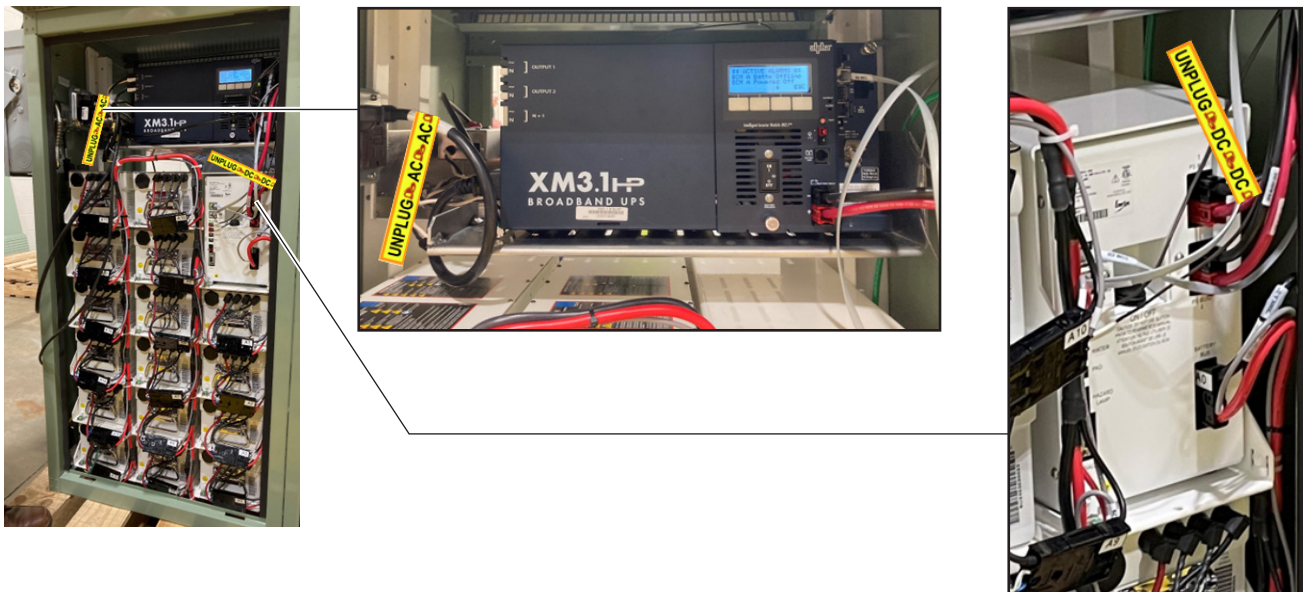

Fig. 5-35, Unplug AC and Unplug DC Label Locations
7. Add UNPLUG AC and UNPLUG DC labels to their corresponding cables (**Fig. 5-35**).